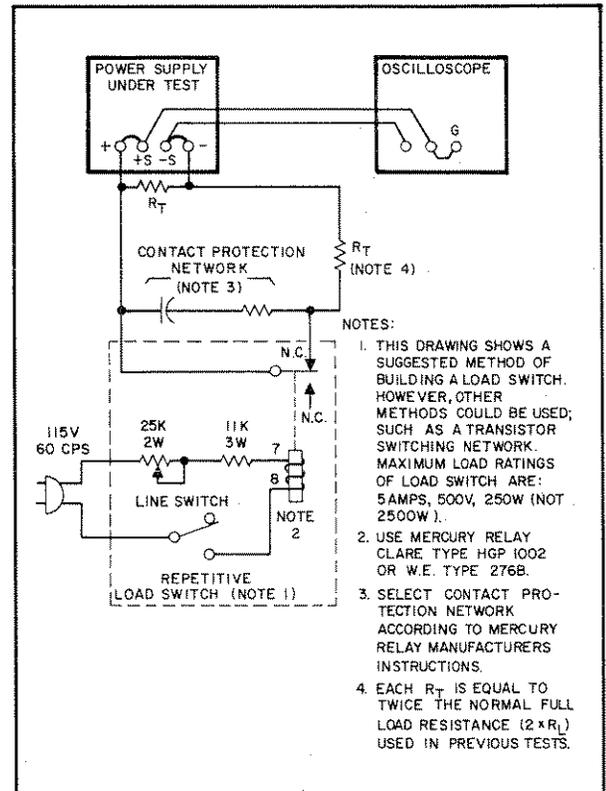

Figure 5-4. Transient Recovery Time, Test Setup
5-34 A mercury-wetted relay, as connected in the load switching circuit of Figure 5-4 should be used for loading and unloading the supply. When this load switch is connected to a 60Hz AC input, the mercury-wetted relay will open and close 60 times per second. Adjustment of the 25K control permits adjustment of the duty cycle of the load current switching and reduction in jitter of the oscilloscope display. This relay may also be used with a 50Hz ac input.
5-35 The maximum load ratings listed in Figure 5-4 must be observed in order to preserve the mercury-wetted relay contacts. Switching of larger load currents can be accomplished with mercury pool relays; with this technique fast rise times can still be obtained, but the large inertia of mercury pool relays limits the maximum repetition rate of load switching and makes the clear display of the transient recovery characteristic on an oscilloscope more difficult.
- a. Connect test setup shown in Figure 5-4. Both load resistors (R_T) are twice normal value of full load resistance.